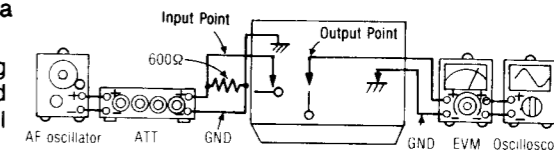

Fig. 6
1. Test equipment connection is shown in Fig. 6, and connect a jumper of TP6. (See page 9).
5. If it is not within the standard, adjust VR7 (L-CH) (VR8 (R-CH)) and repeat the step (2), (3) and (4) until the output is within the standard.